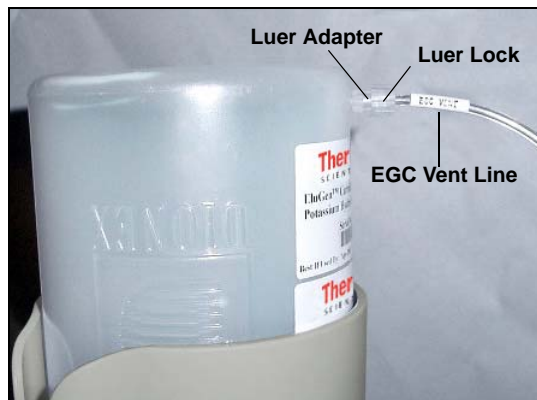

Figure 49. Installing the Dionex EluGen Cartridge Vent Line
4. Twist the luer lock and Dionex EluGen cartridge vent line into the luer adapter (see Figure 49).